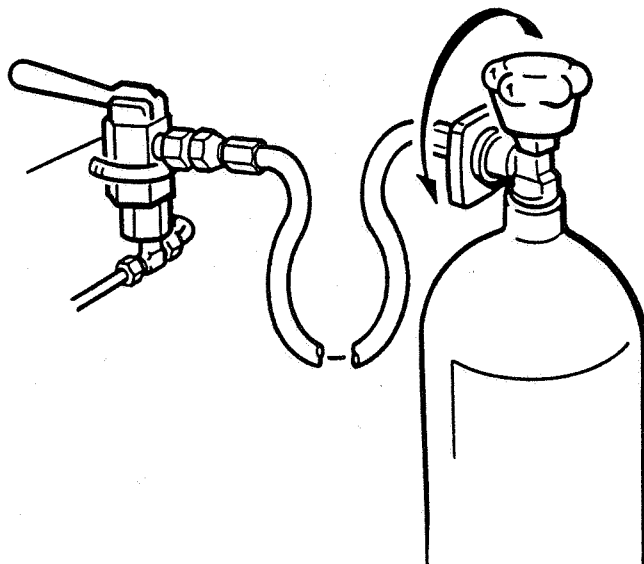

Fig. 15.4 Connecting air bottle
- Connect air bottle to filling valve (fig. 15.4).